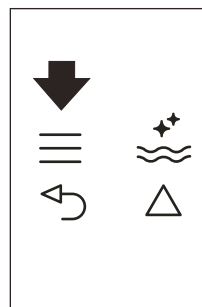
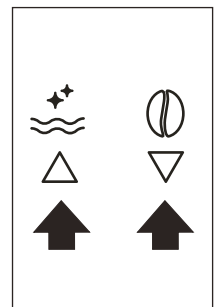

Fig. 22
Fig. 9
- ▶ Press the ≡ icon (B2) to enter the menu (Fig. 22), then press the icons △ ▽ (B7) and (B8) (Fig. 9) until "PROGRAM CAPPUCCINO" is displayed.
- ▶ Press the  icon (B2) to enter the menu (Fig. 22) or press the   icons (B7) and (B8) (Fig. 9) until "PROGRAM CAPPUCCINO" is displayed.
- ▶ Press the  icon (B9) to confirm then the   icons (B7) and (B8) (Fig. 9) until "COFFEE FOR CAPPUCC." is displayed.